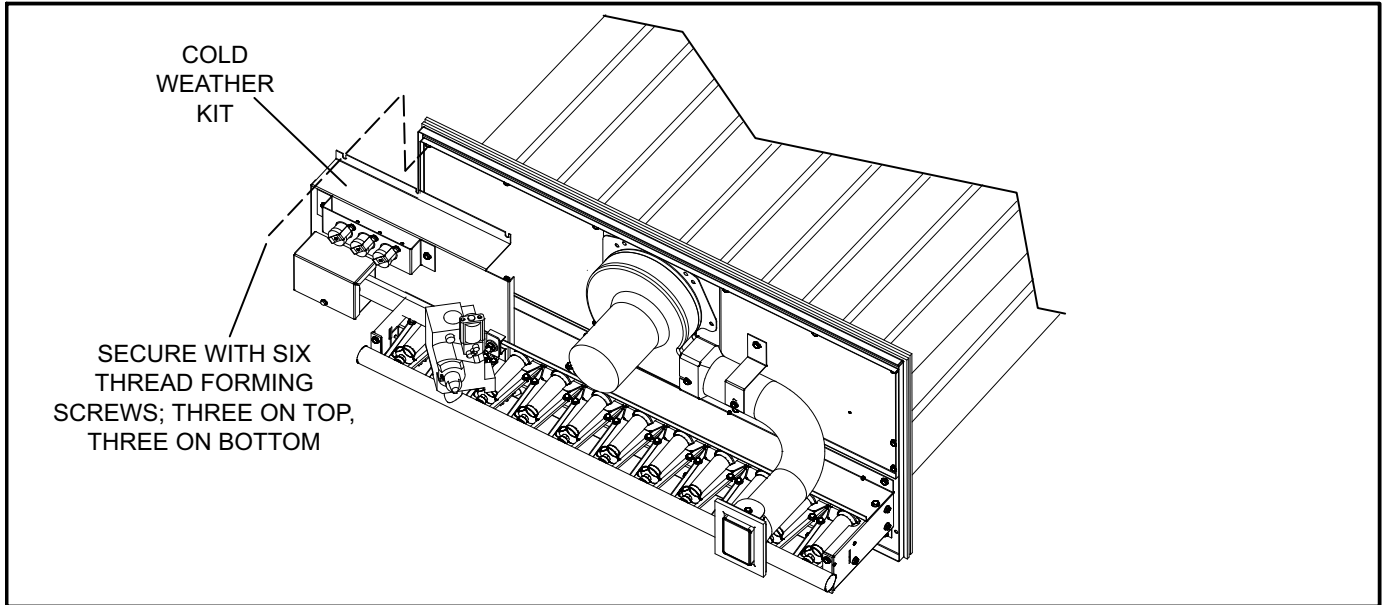

FIGURE 8
- 2- Install both cold weather assemblies as shown in figure 8. Use existing screws.
- 2- Install both cold weather assemblies as shown in figure 8. Use six thread forming screws, provided.